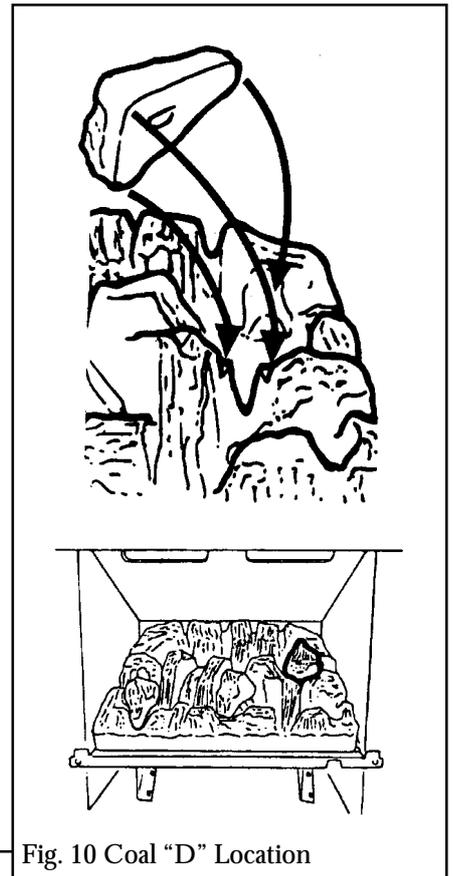

Fig. 10 Coal "D" Location
4.1.4 Position the rear right coal (embossed "D" on its underside) in the well in the coal bed marked "D" - see figure 10. The pointed rear of the coal should rest on the ledge in the "V" cut-out at the rear of the well in the coal bed marked "D". The other two corners of the coal should rest on the ledges at the front and right side of the well in the coal bed.